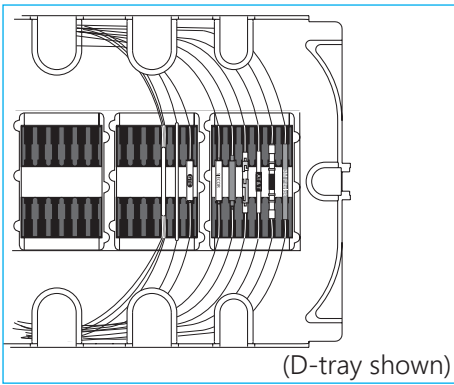

Figure 38.
10.6.4 Subsequent splices should be stored in the tray from the top slot down. Slack loops can be secured under the tabs around the outside edges of the tray and in the spaces between splice modules. (Figure 38, see next page)